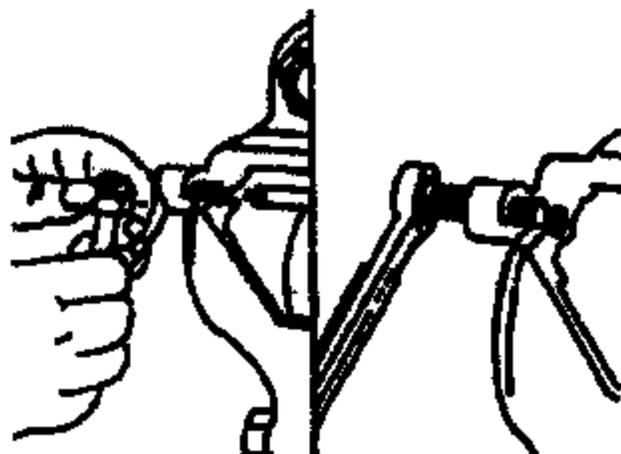

Figure 18
2. If a new poppet adjusting screw and nut are being used, turn the screw into the non-sealing end of the jam nut until the device end of the screw is flush with the nut (**Figure 18**).